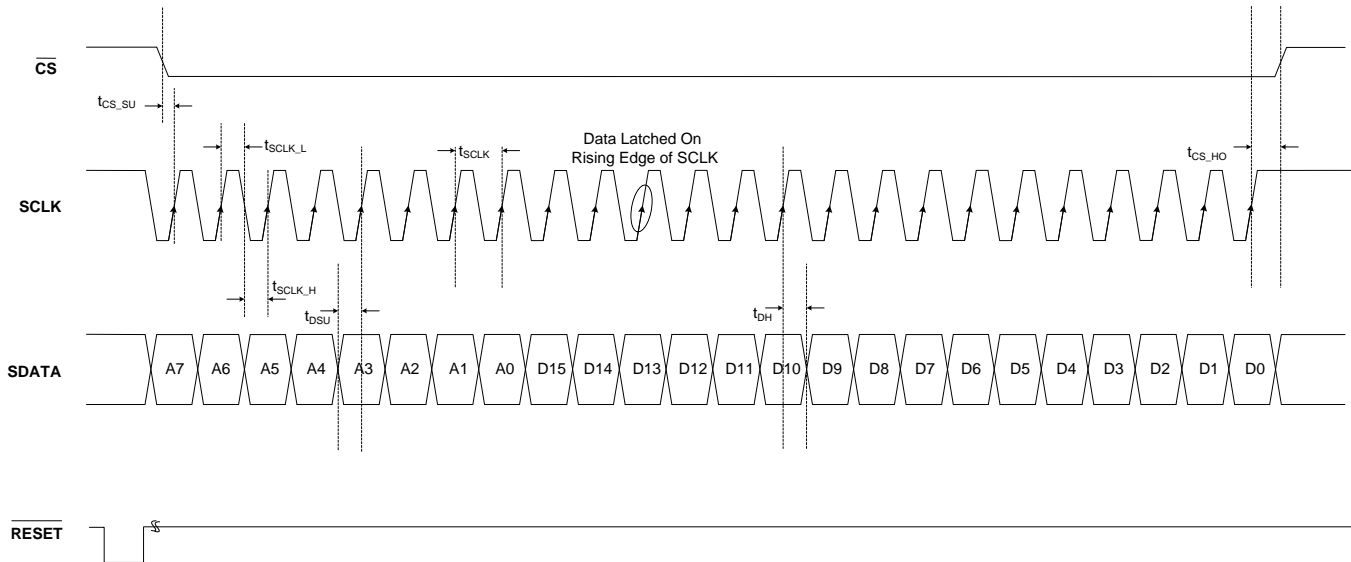
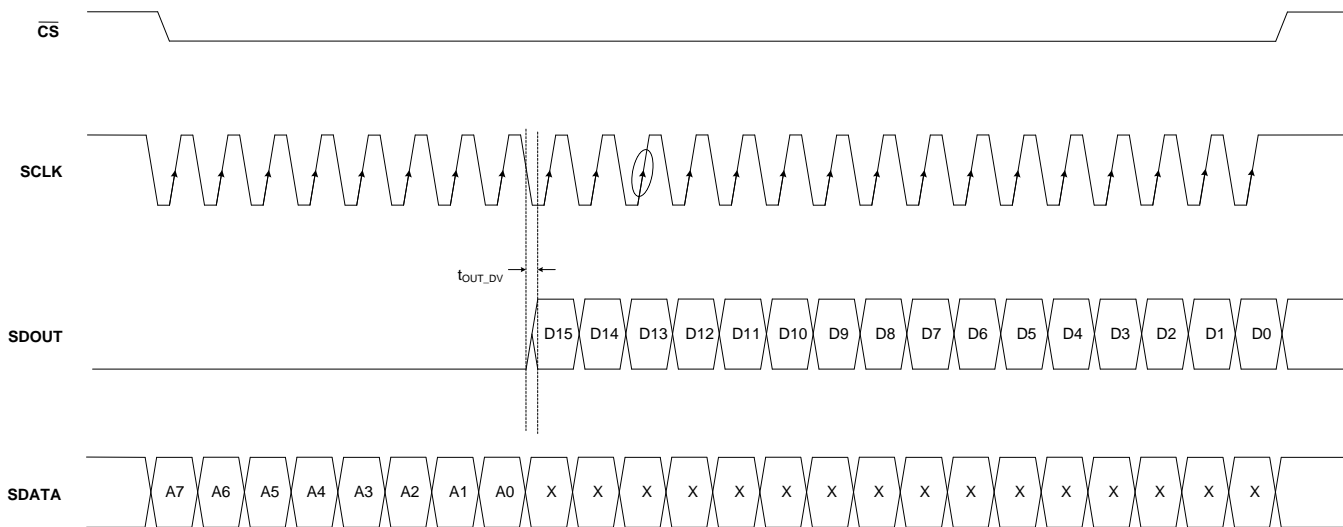

Figure 74. Serial Interface Write Timing Diagram
Figure 76. Serial Interface Read Timing Diagram
1. Either through a hardware reset by applying a low pulse on the \overline{RESET} pin (of widths greater than 50 ns), as shown in Figure 74; or
Table 7. Timing Characteristics for Figure 74 and Figure 76⁽¹⁾
(1) Typical values are at $T_A = +25^\circ\text{C}$, minimum and maximum values are across the full temperature range of $T_{MIN} = -40^\circ\text{C}$ to $T_{MAX} = +85^\circ\text{C}$, unless otherwise noted.
(2) See Figure 76
To exit serial readout mode, reset the EN_READOUT register bit to '0', which enables writes to all device registers. At this point, the SDOUT pin is in 3-state. A detailed timing diagram for the serial readout mode is shown in Figure 76.